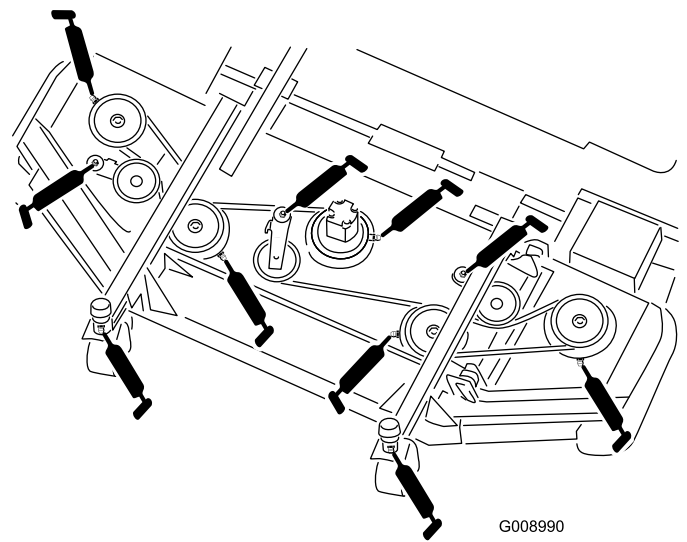

Figure 50
- Castor fork shaft bushings (2) (Figure 50)
- Spindle shaft bearings (5) (located on spindle housing) (Figure 50)
- Idler arm pivot bushings (3) (located on the idler pivot shaft) (Figure 50)